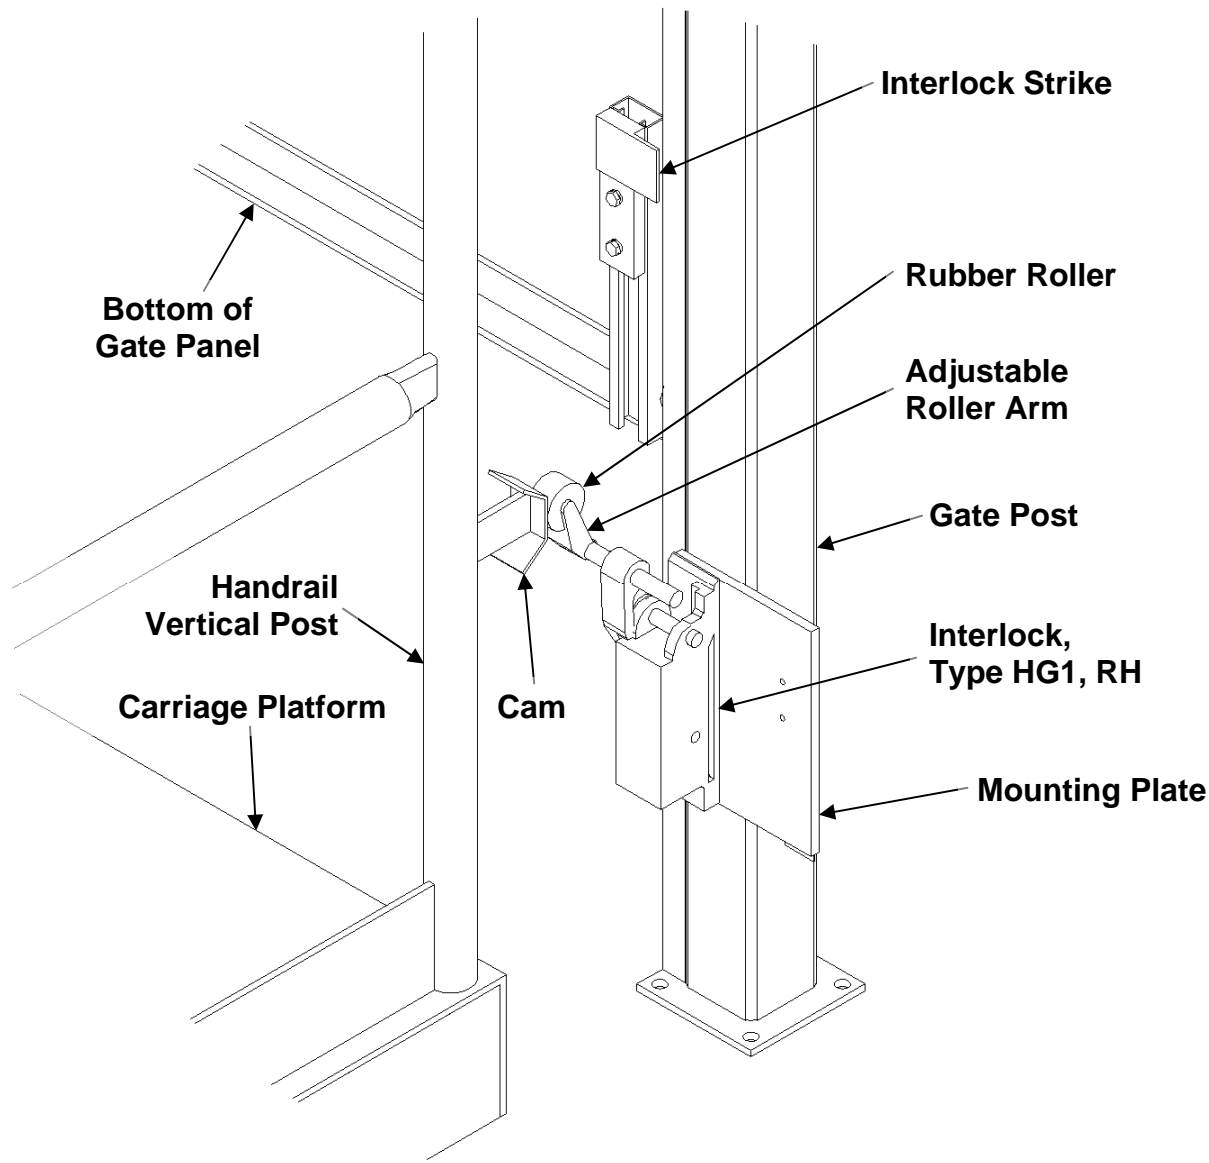

Figure 15 - HG1 Mechanical Interlocks
C.J. ANDERSON INTERLOCK HG1 INSTALLATION (Refer to Figure 15)